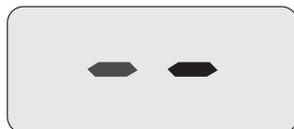
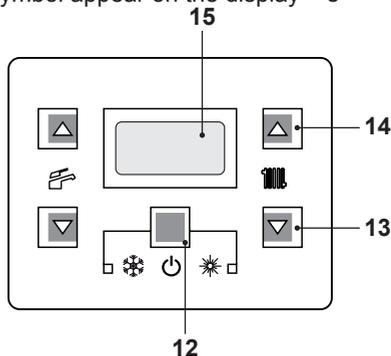

Fig. 7.9
Fig. 7.10
- Electrically power the boiler by switching on the double pole isolation switch. The LCD will display, the   symbol (Fig. 7.9).
- Press the 12 key for 2 seconds until  symbol appear on the display Fig. 7.10.
- Switch off the boiler by pressing the 12 (Fig. 7.10) key for 2 seconds until the  symbol appears on the LCD display (Fig. 7.9).
- Press the 12 key for 2 seconds until  symbol appear on the display Fig. 7.10. The LCD display displays the boiler temperature (primary circuit) and the  symbol; the °C symbol slowly flashes Fig. 7.11.
Press the reset key on the boiler control panel 12 (Fig. 7.10) to reset its functioning.